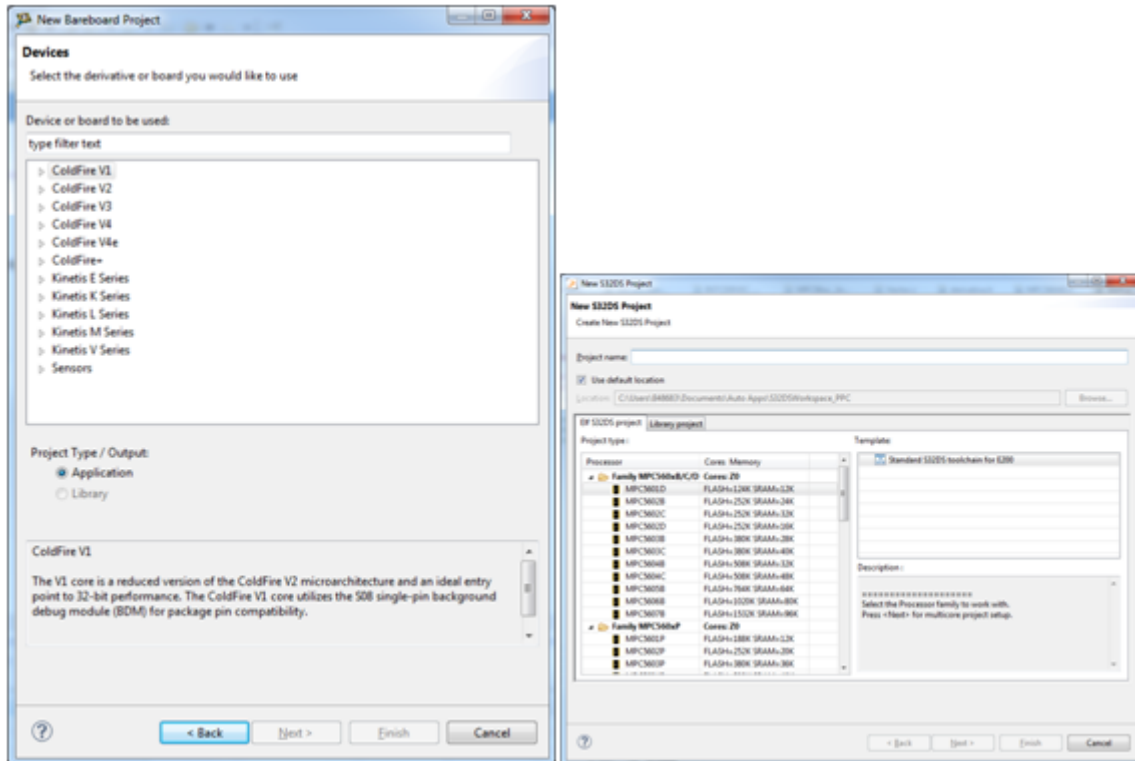

Figure 21. a) CW Target Selection Table. b) S32DS Equivalent.
2. Choose the target MCU (Figure 21)